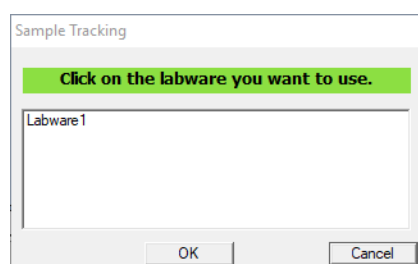
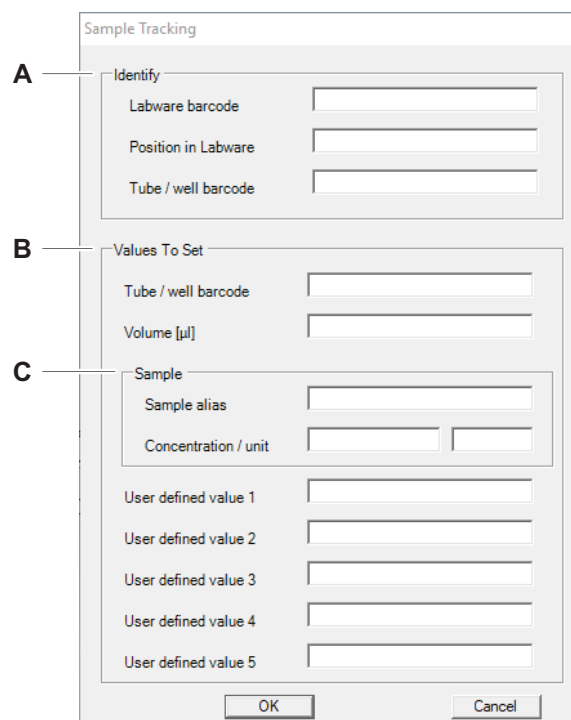

Fig. 5-18 Sample Tracking; Labware selection screen
Fig. 5-22 Sample Tracking get value screen
- 2 Enter the identification information into the Identity section (A) Fig. 5-22, Fig. 5-18.
- 3 Edit the values to set to the tube or well in the in the Values To Set section (B) Fig. 5-22, Fig. 5-18.
- 4 Click on OK to proceed Fig. 5-22, Fig. 5-18.